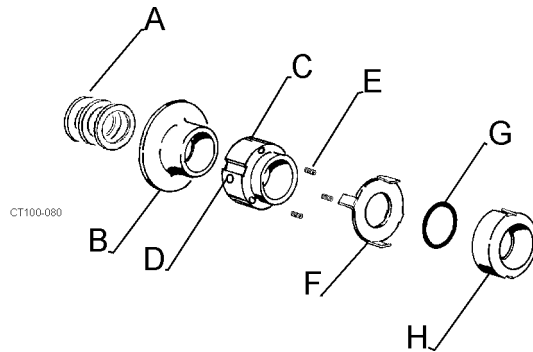

Figure 2 - Type 1 Seal Items
4. Remove deflector. (Figure 2, item B).
5. Loosen set screws (2) (Figure 2, item D) in spring retainer (Figure 2, item C) and slide retainer and washer (Figure 2, item F) off shaft. Save springs (3) (Figure 2, item E).
8. Remove O-ring, then lift rotary seal off shaft. (Figure 2, items G and H).